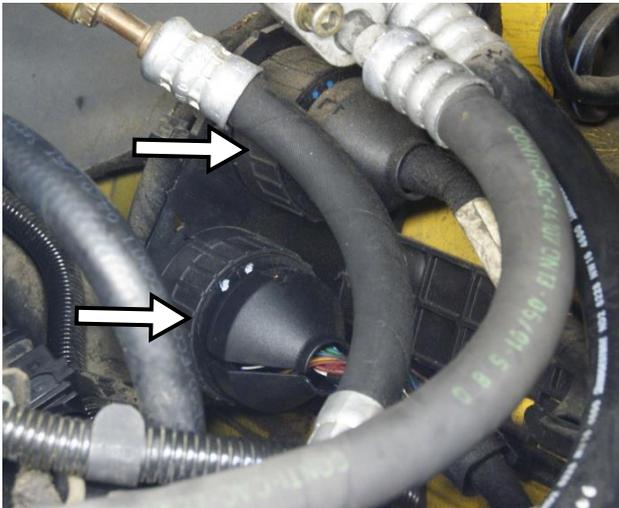

Figure 26
- Disconnect the two main engine wire harnesses located on passenger side of engine bay (figure 26).